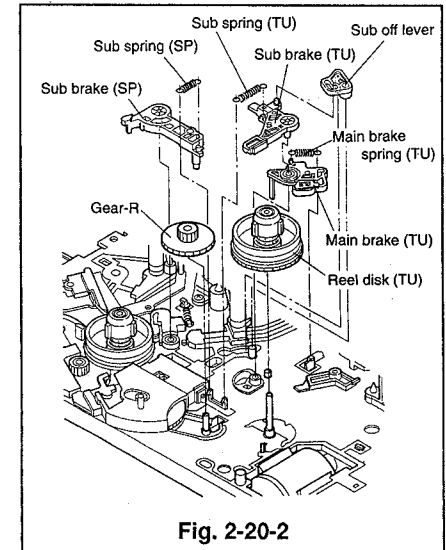

Fig. 2-20-2
- ⑤ Raise the gear R(takeup side) upward to remove it from the shaft. (Refer to Fig. 2-20-2.)
- ① Install the gear R(takeup side) on the shaft. (Refer to Fig. 2-20-2.)
- ② Install the takeup reel disk on the shaft.(Refer to Fig. 2-20-2)